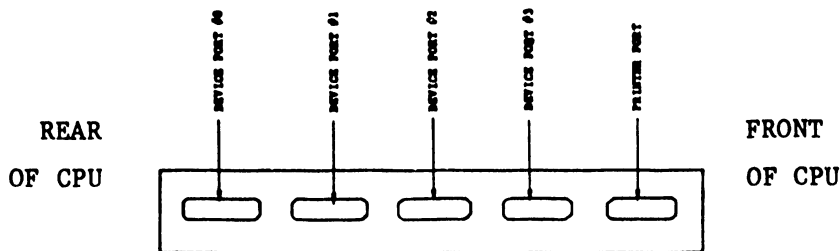

FIGURE 3-16
- A. Install one Workstation (refer to Section 4.4, 'Workstation Installation') on a 22V01 IOP that has device address switches set for binary count of 0. Attach the workstation to device port 0 on the IOP. See Figure 3-16.